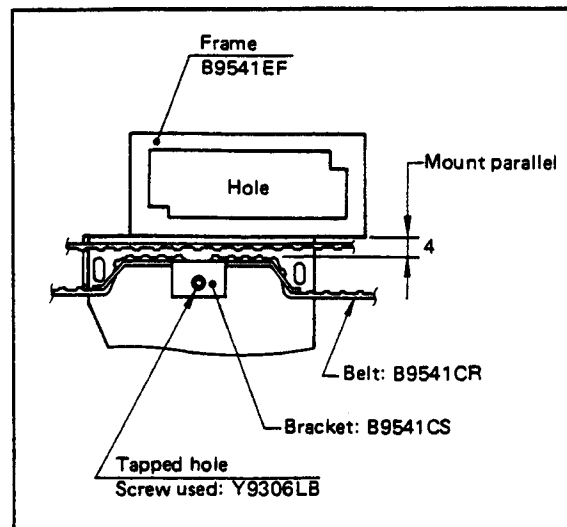

Figure 11-11.
(2) Mounting Belt Assembly on the Frame
Mount the belt assembly in (1) above on the carriage assembly frame (B9541EF) as per Figure 11-11.